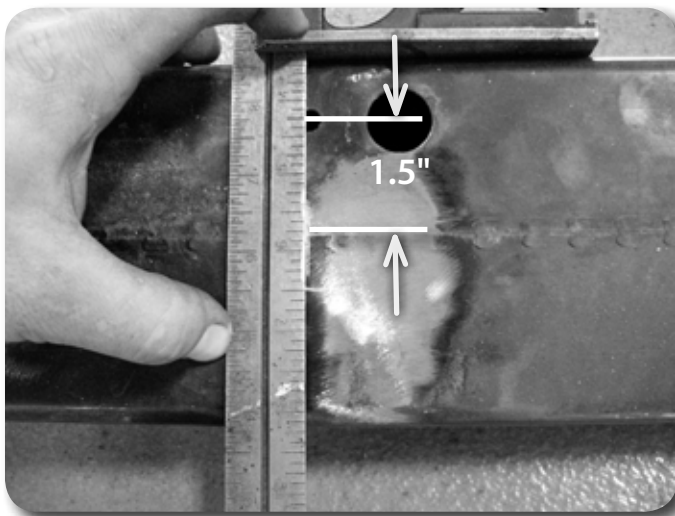

Figure 15
33. Using a square from the top edge of the bumper, measure down 1.5" from the two holes drilled earlier and make a mark. This should end up in the center of the seam. Figure 15